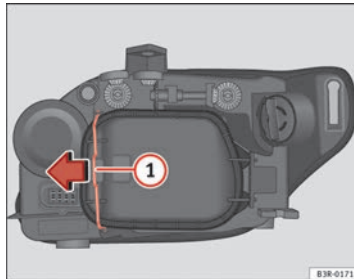

Fig. 200 Side light bulb (inside of vehicle)
- Move the brace ⇒ Fig. 200 ① in the direction of the arrow and remove the rigid cover, separating the brace side and then removing the two tabs from the other end of the cover.